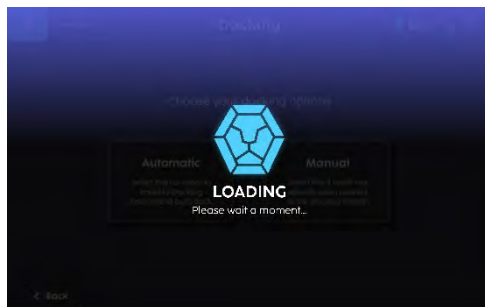

Fig. 12
5. A loading screen is displayed followed by a prompt to place handle bar down (Fig 12 & 13).